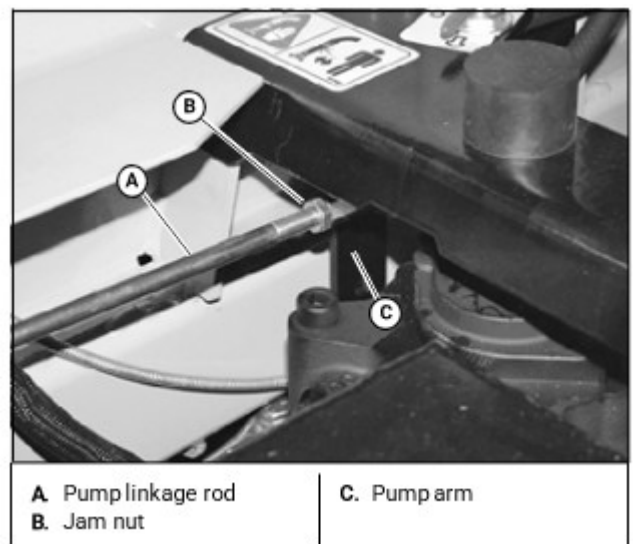

Figure 3
6. If wheel(s) are rotating forward, loosen the jam nuts on the pump linkage rods and rotate the rod to lengthen the steering control linkage until the wheel(s) come to a stop. [Figure 3]
8. If wheel(s) are rotating in reverse then loosen the jam nuts on the pump linkage rods and rotate the rod to shorten the steering control linkage until the wheel(s) come to a stop. [Figure 3]